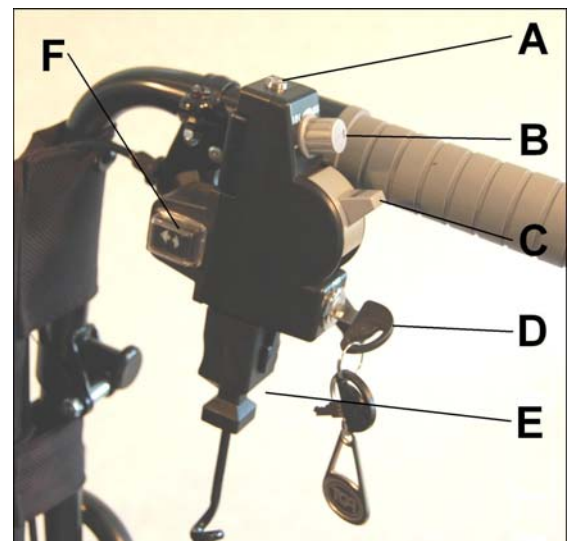

Fig 5 Handlebar Control
12. The next item to fit is the handlebar control (Fig 5). This unit performs many functions in addition to controlling the motor. It replaces the original wheelchair handlebar grips as well as providing extension handlebars for added comfort when controlling the chair. It is set for right hand use but can be reset for left hand operation.
retainer for locking the new handlebar grip onto the wheelchair handlebar. With the allen key T bar, unscrew the expander bolt so that the 4 expanding arms are unexpanded and flush with the internal barrel (until approximately a quarter of the bolt thread is left in the internal barrel). You may need to hold your finger on the barrel while this is taking place to prevent it turning. Keep the allen key T bar located in the expander bolt, as this makes fitting easier and now slide the new grip fitted with the control onto the right hand wheelchair handlebar (Fig 5). The new grips are obviously longer than the ones removed and this enables the original handlebars to be extended. This is sometimes useful when fitting the Powerpack to give more clearance for your feet. Now tighten the expander bolt as much as you can using the long allen key T bar (Fig 6). The control unit should now be in a vertical location (Fig 6). Repeat for the other handlebar grip. NB To ensure a positive fitting, at least 7.5 cm (3 inches) of the wheelchair handlebar must be covered by the new grip.